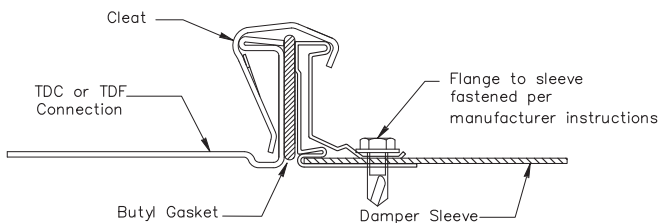
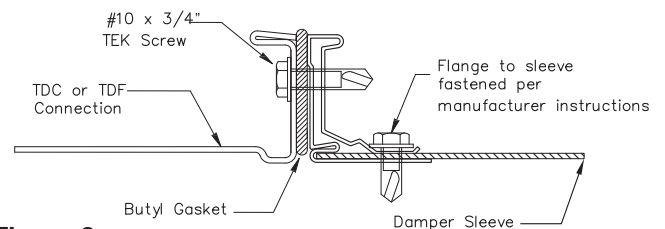

Figure 1
Figure 2
4. Install the metal cleat (see Figure 1) or #10 TEK screw (see Figure 2), approximately equally spaced, per the schedule described below: